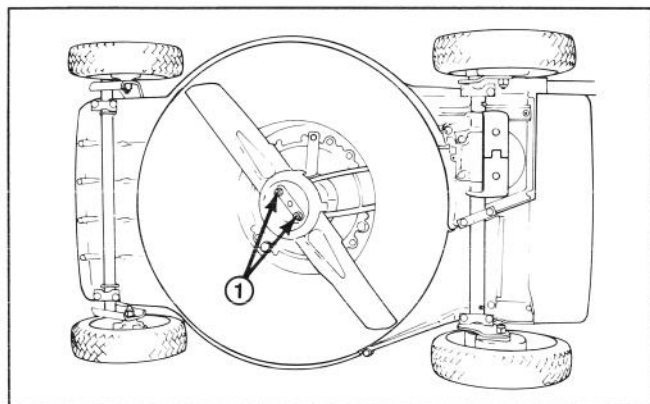

Figure 22
3. Tip mower on its right side (Fig. 22). Avoid rotating blade as starting problems may result.
5. REMOVING BLADE—Grasp end of blade using a rag or thickly padded glove. Remove (2) locknuts, (2) washers, anti-scalp cup, and blade (Fig. 22 & 24).